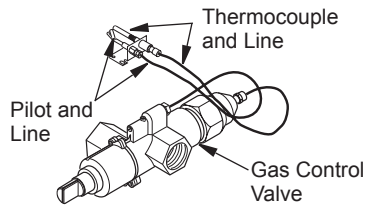

Figure 9 - Gas Control Valve with Thermocouple and Pilot
2. Attach the pilot gas line to the pilot outlet of the gas control valve and tighten. Connect the thermocouple to the rear of the gas control valve. See Figure 9. Do not overtighten. If using propane/LP gas, see *Changing Pilot Orifice*, page 12.